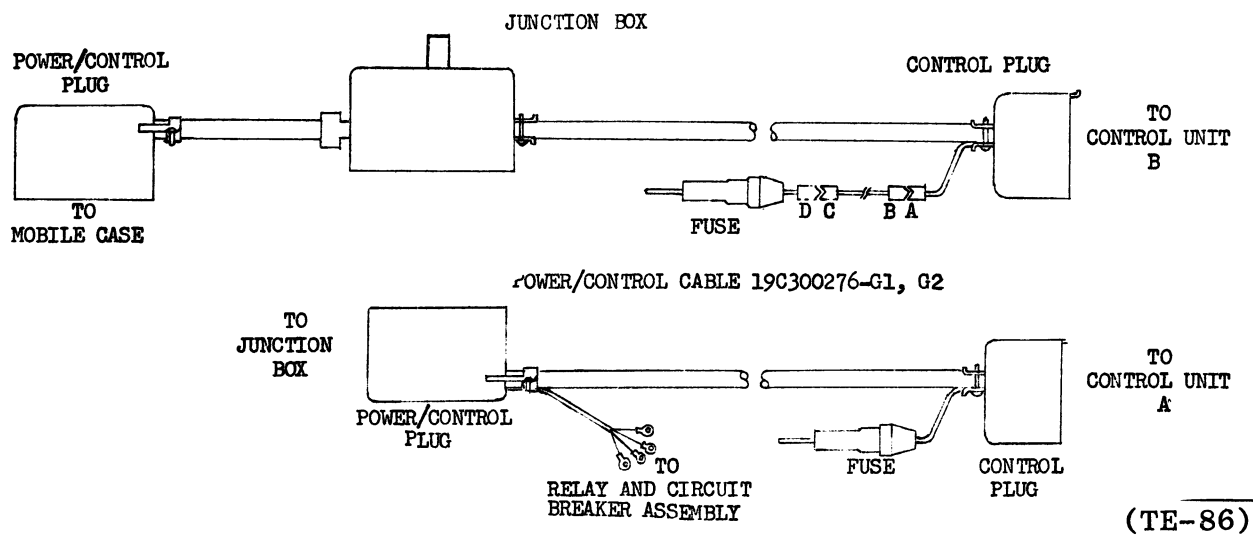

Figure 1 Cable Diagram - Rear Seat
3. Disconnect the Power/Control plug (Power/Control Cable 19C300276-G1, G2) from the Transmitter-Receiver Case and connect it at the Junction Box in the Rear Seat Extension Cable. Refer to Cable Diagram, Fig. 1.
5. The cable plugs should be connected as shown in Fig. 1.